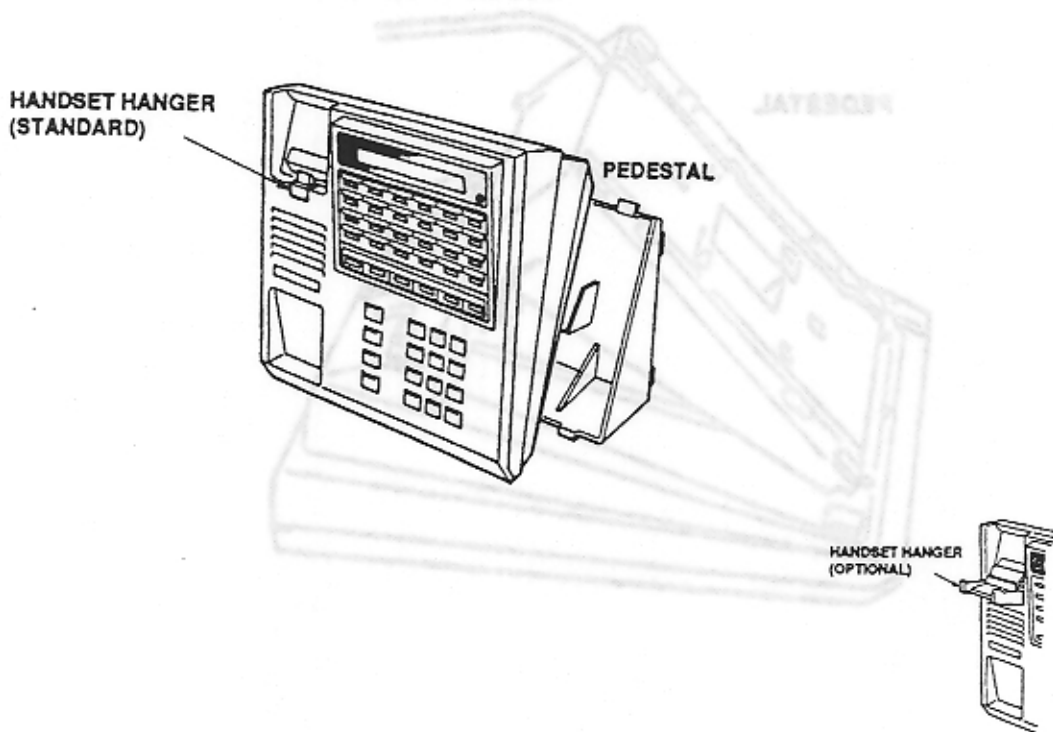

FIGURE 3-31 KEY TELEPHONE WALL MOUNTING
2. Using a flat bladed screwdriver, slide the handset hook out of the slot in the upper cradle. Turn the hook upside down, then reinsert the hook in the slot, as shown in Figure 3-31.
3. Insert the top two tabs first into the back of the key telephone, then insert the two bottom tabs, as shown in Figure 3-31.